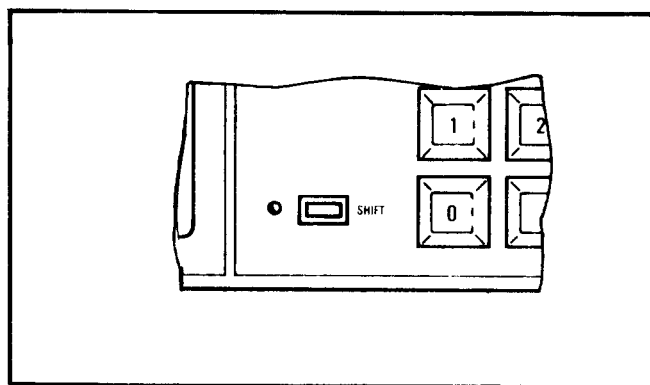

Figure 3-9. SHIFT Pushbutton
- f. SHIFT Pushbutton (Figure 3-9). The SHIFT pushbutton is used to provide alternate functions for certain designated controls.